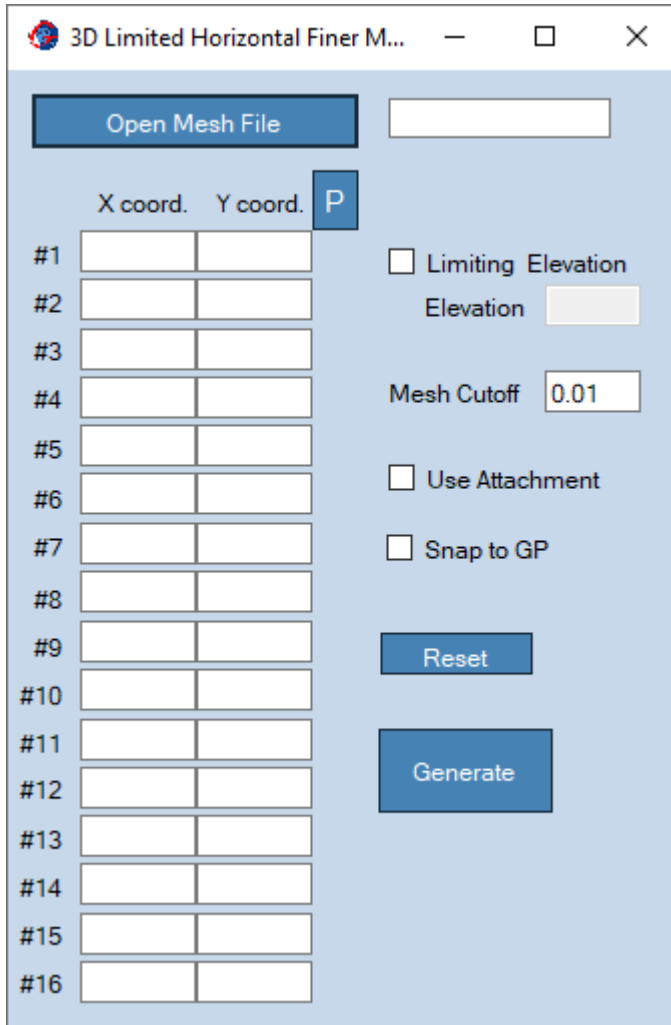

Figure 32: 3D Surfaces Menu – Horizontal Finer Mesh.
- **Snap to GP:** This option is useful when coordinates (X,Y) are selected using the mouse. Given the unlikeliness of exactly clicking over a gridpoint (GP) coordinate, activating this option will internally correct the coordinate of the selected point to the closest GP coordinates. This option helps to create straight edges of the landform perimeter, aligned with the mesh grid.
- **Meshing Menu, Horizontal Finer Mesh:** This menu option (shown in Figure 32) is very similar to the previous one, but allows for horizontal orientation of the internal planes. It is useful when a portion of the mesh wants to be refined and it need to make it compatible with construction sequence. In this way, the new finer mesh can be grouped with nearby mesh and then activated them all together. The new smaller elements have a quarter size of the source elements. This option also does not require the execution of *3D Meshing* after generation.